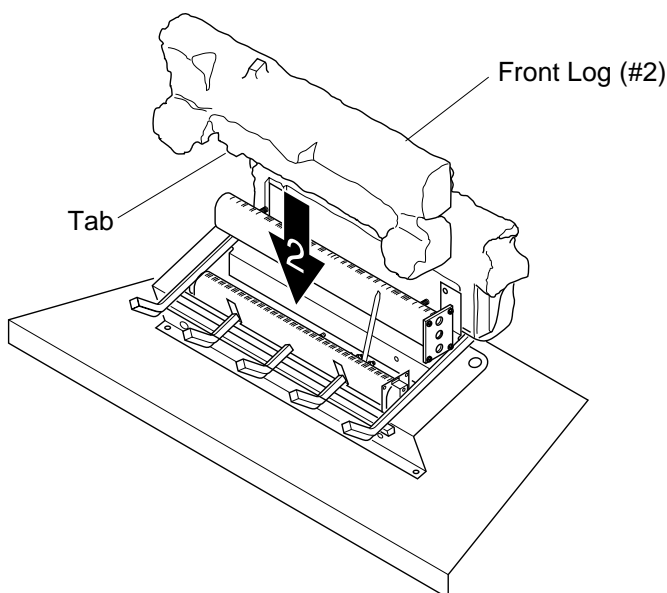

Figure 22 - Installing Front Log
2. Slide front log (#2) into place behind front burner. Make sure tabs at bottom of log are behind front burner (see Figure 22).